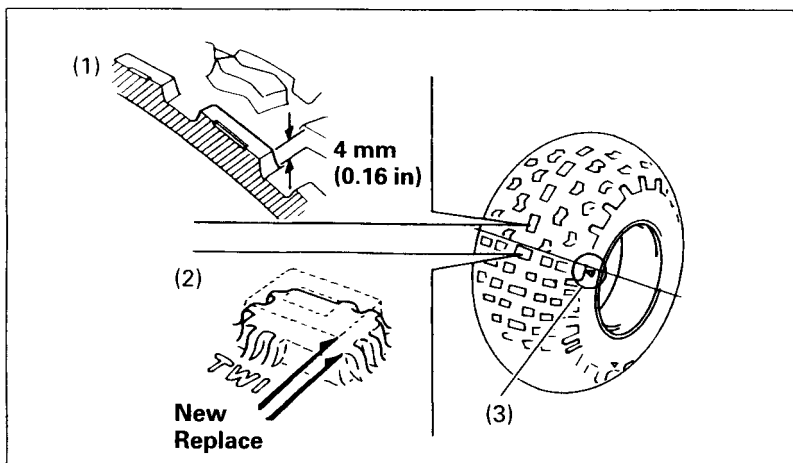

Fig. 4-32
To check the condition of a tyre tread, measure the groove depth (1) (Fig. 4-32) in the center of the tyre, or check the wear indicator (2).